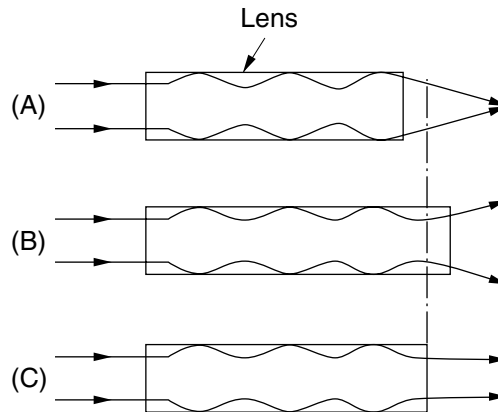

Figure 2-205
Light rays entering the lens are repeatedly reflected inside the lens as shown in Figure 2-205. The interval between these light ray reflections is proportionate to the wave length of the incident light.
For instance, when the lens is shorter than the ratio of the light wave length as in (A) of Figure 2-205, the emerging light rays are focused. When it is longer as in (B), the emerging light rays are diffused. When the lens matches the ratio of the wave lengths as in (C), the emerging light rays are parallel rays and the image of the document is focused at its original size on the image plane.